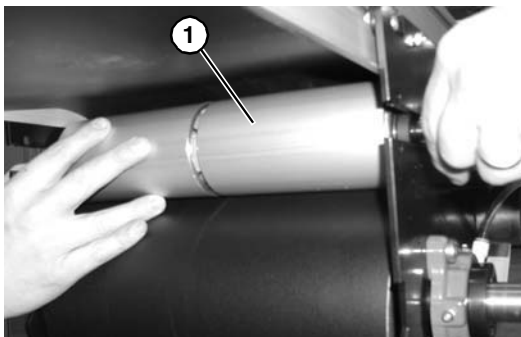

Figure 27
10. Slide out tensioning roller (**Figure 27, item 1**).